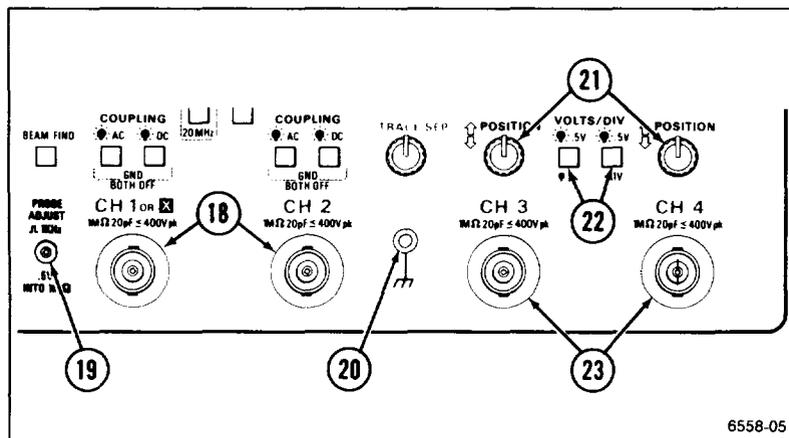

Figure 2-3. Vertical connectors and CH 3 and CH 4 controls.
Refer to Figure 2-3 for location of items 18 through 23
- (18) CH 1 OR X and CH 2 Input Connectors—Connect signals to the inputs of Channel 1 and Channel 2 vertical attenuators.